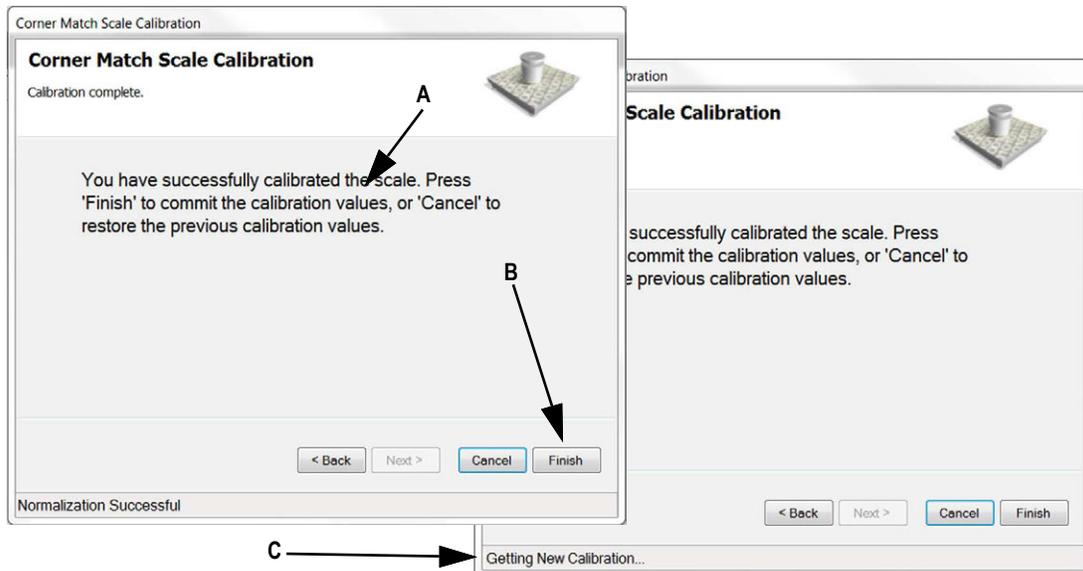

Figure 4-14. Finish Calibration
11. The message stating successful calibrated of the scale appears (Figure 4-14 A).
12. Press **Finish** (Figure 4-14 B).
A message appears in the bottom of the frame *Getting New Calibration* (Figure 4-14 C). When done the pop up box will disappear and calibration is complete.